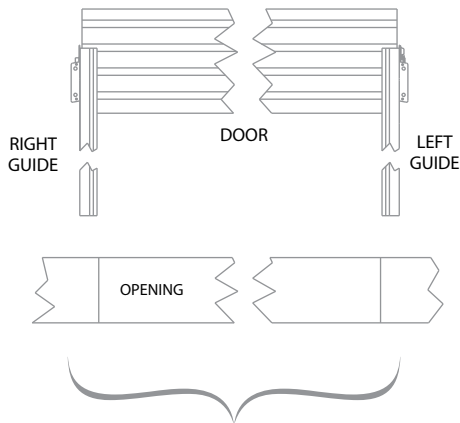

FIGURE 2
- On inside of building, place left guide on floor perpendicular to opening with guide bottom close to the left jamb and the top toward inside of building. Do the same with the right guide to the right jamb. **See figure 2.**
- Place door on floor at top of and between guides. Rotate door as necessary to locate bottom bar against floor. **See figures 2 and 3.**